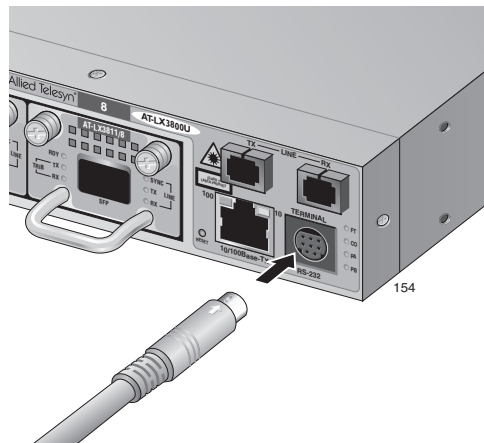

Figure 43. Connecting the Local Management Cable to the Terminal Port
1. Connect the DIN-8 end of the management cable included with the AT-LX3800U chassis to the RS-232 terminal port on the front of the chassis, as shown in Figure 43.